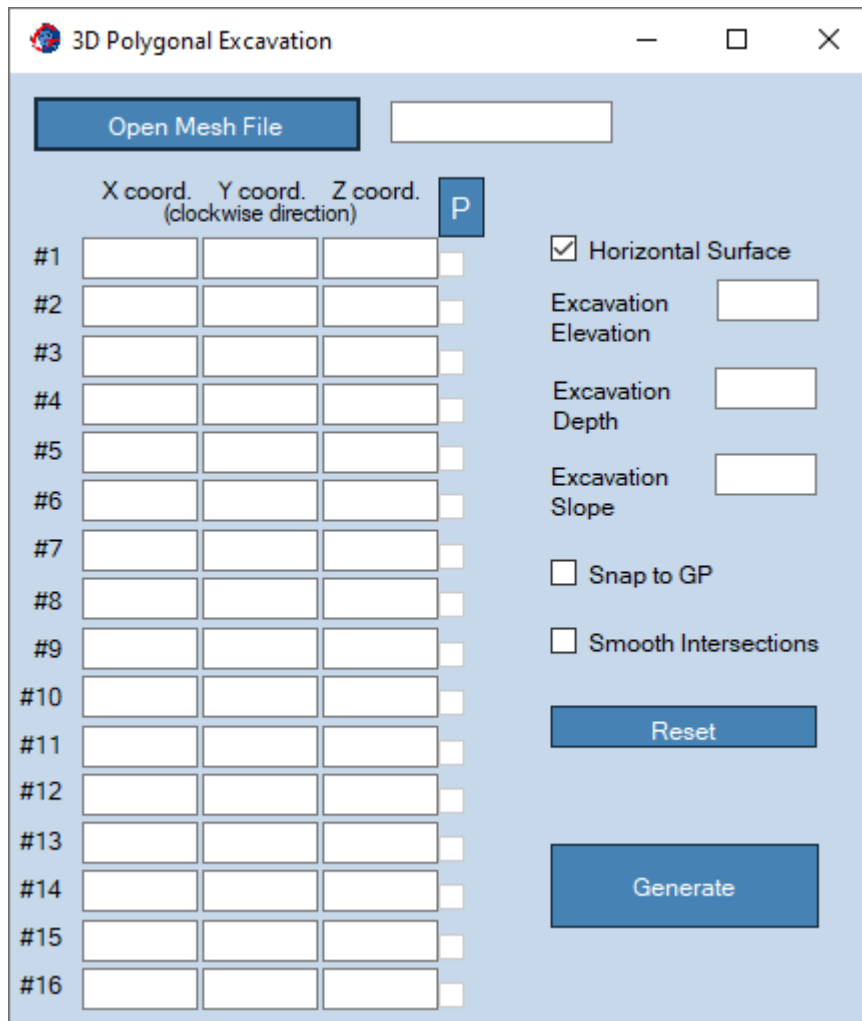

Figure 30: 3D Surfaces Menu – Polygonal Excavation.
- **Snap to GP**: This option is useful when coordinates (X,Y) are selected using the mouse. Given the unlikeliness of exactly clicking over a gridpoint (GP) coordinate, activating this option will internally correct the coordinate of the selected point to the closest GP coordinates. This option helps to create straight edges of the landform perimeter, aligned with the mesh grid.
- **Meshing Menu, Polygonal Excavation:** This option (shown in Figure 30) defines a Polygonal Excavation landform over any given surface.